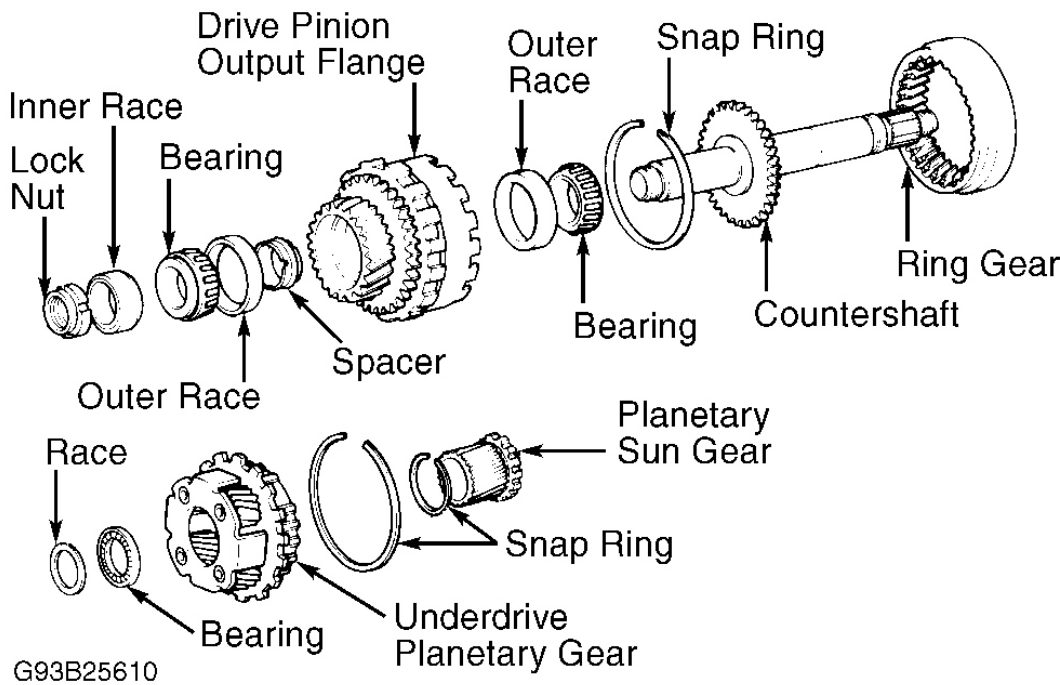

Fig. 38: Exploded View Of Countershaft Assembly
1. Remove planetary sun gear from countershaft. Remove snap ring from sun gear and countershaft assembly. Remove underdrive planetary gear, thrust bearing and race. See **Fig. 38**.
1. Press bearing of thick inner race on countershaft. Install ring gear and snap ring to countershaft. Install bearing outer races to drive pinion. Press thick bearing race into flange side of drive pinion. Using adapters, press thin bearing race on remaining side of drive pinion. See **Fig. 38**.
5. Using a punch and hammer, stake lock nut. Remove counterdriven gear. Install thrust bearing and race "H". See **Fig. 64**. Install underdrive planetary gear and snap ring. Install snap ring to sun gear. Install planetary sun gear to countershaft. See **Fig. 38**.